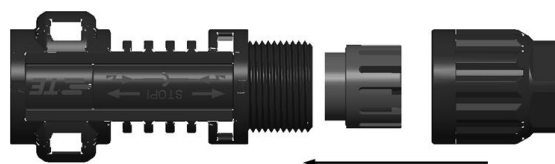

Figure 5
- 1) The engagement of the Sealing & Pinch Ring into the connector housing until it stop (see Figure 5 and 6)